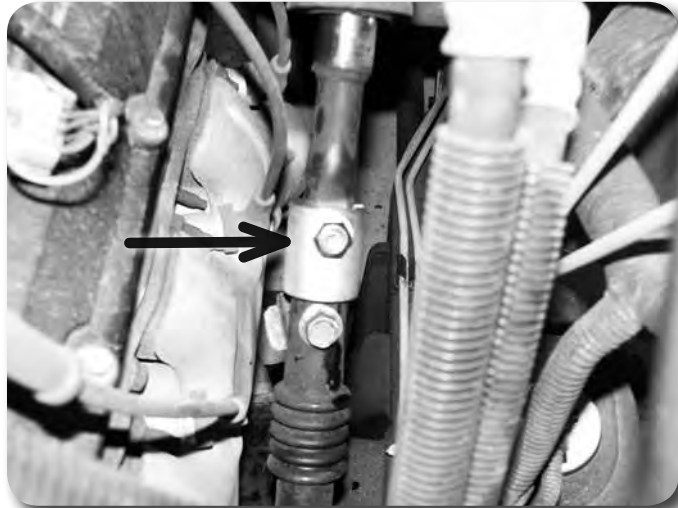

Figure 17
42. Install the provided steering extension into the lower steering shaft and fasten with the factory hardware **Figure 17**. Leave hardware loose.